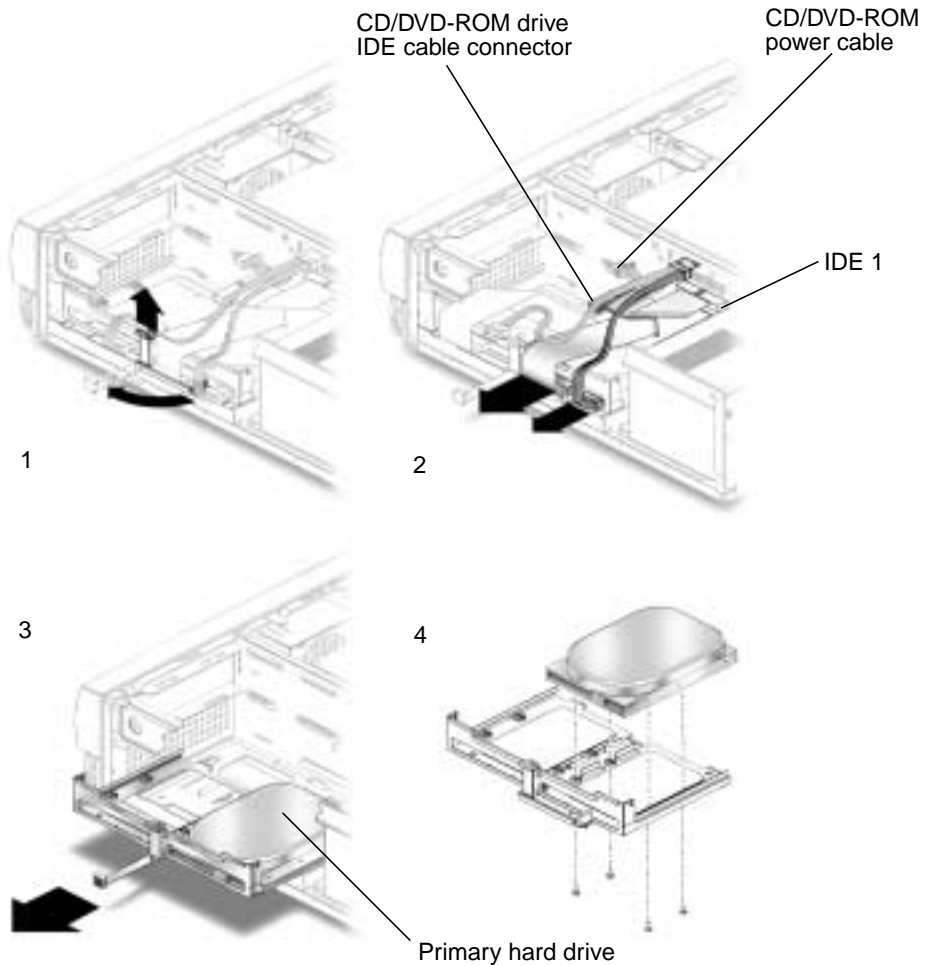

FIGURE 3 Removing and Replacing a Primary Hard Drive
- Power cable connector (see FIGURE 3).
2. Lift the spring-loaded latch upward to release the hard drive tray from the chassis (see FIGURE 3).
4. Disconnect the hard drive IDE cable and the power cable connectors from both hard drives (if two drives are installed). Move the cables out of the way (see FIGURE 3).
1. **Position the hard drive into the hard drive tray (see FIGURE 3).**